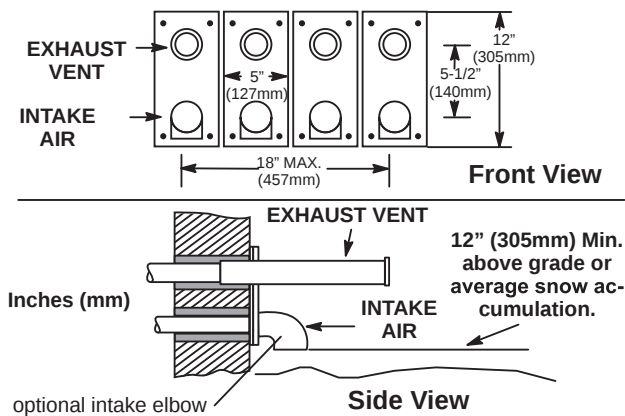

Figure 27. Optional Vent Termination for Multiple Unit Installation of Direct Vent Wall Termination
8. A multiple furnace installation may use a group of up to four terminations assembled together horizontally, as shown in **Figure 27**.